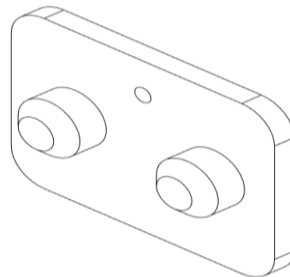

Fig. 4: Drilling jig
- 7) Insert the drilling jig into the holes in the dashboard (see Fig. 4).
- 8) Drill a hole in the dashboard according to the hole in the drilling jig (see Fig. 4).